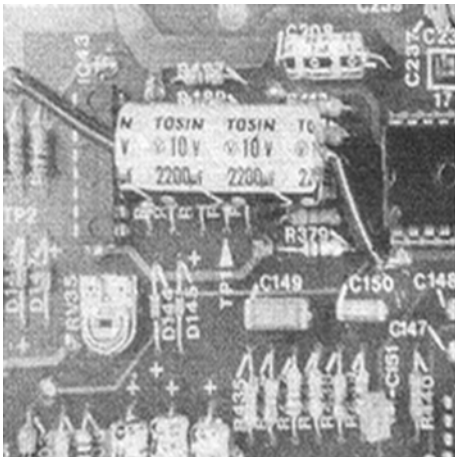

Figure 2. Decoupling power rail. See note 6.
- negative end connected to the track pin near pin 1 of IC44 as shown in Figure 2.